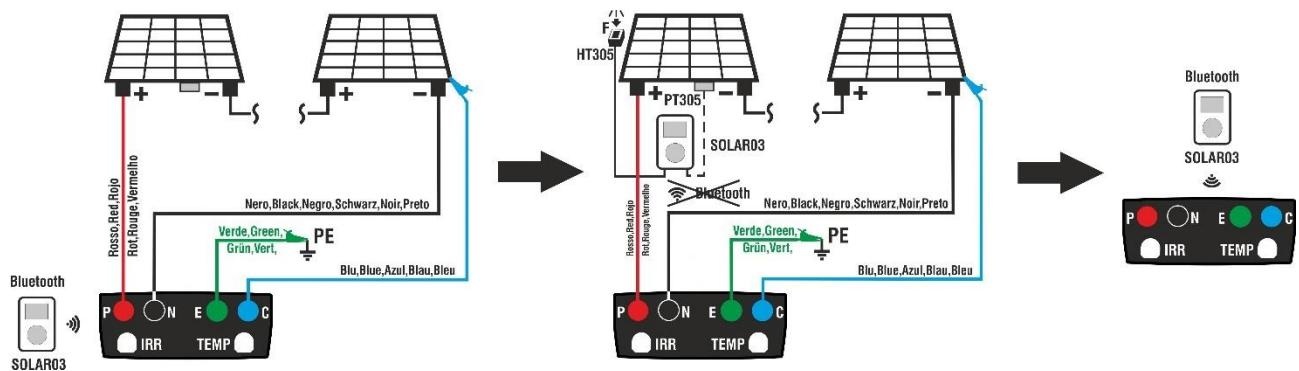
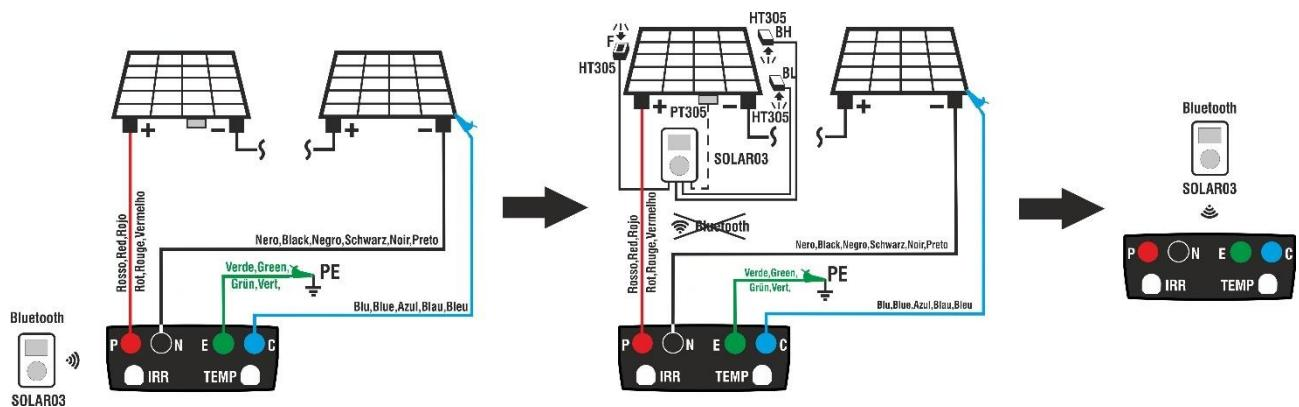

Fig. 14: Connection of SOLAR03 in synchronous recording on Monofacial PV modules
Fig. 15: Connection of SOLAR03 in synchronous recording on Bifacial PV modules
2. Connect the instrument to the PV module/string being tested and to the main earth node of the system, and to the metal masses connected to earth as shown in Fig. 14 (Mono-facial modules) or Fig. 15 (Bifacial modules) In detail:
- Move the SOLAR03 remote unit close to the instrument as shown in Fig. 14 or Fig. 15 – left side part
- Move the remote unit close the modules and connect the irradiance/temperature probes as shown Fig. 14 or Fig. 15 – middle side part. **Since recording has already been activated on remote unit SOLAR03, it is not necessary to maintain the Bluetooth connection anymore.** Maintaining the connection (if possible) will only allow to immediately obtain the outcome of the test without waiting for the measuring campaign to be completed.